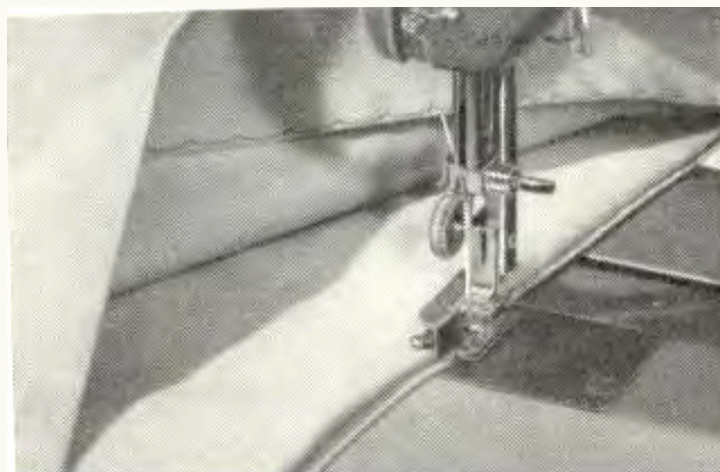

Fig. 34.
Perhaps you've just finished a dress and have only the hem left to complete. You think, maybe, that you ought to do this by hand so that it shows as little as possible? Well you don't have to, you know! Use your Husqvarna Automatic. If you fit a special blindstitching attachment plate S 15818 (Fig. 34) and pattern cam set D, you can sew a hem which is almost completely invisible on the right side. Both these attachments are available, at extra cost. Do it like this:
1. Insert pattern cam set D and fix the blindstitching plate with the presser foot screw (2, Fig. 1). The plate must be attached so that it covers the left part of the standard presser foot (Fig. 34).
hem to project about 1/8 in. (3 mm) beyond the fold (see Fig. 34).